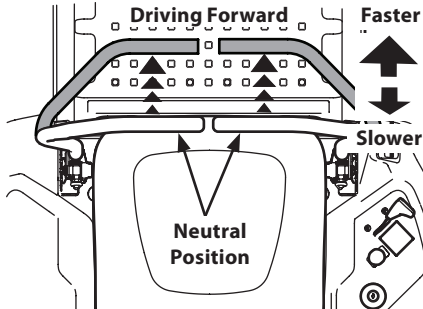

Figure 22
1. Slowly and evenly move both lapbar drive control levers forward. The tractor will start to move forward. See Figure 22.